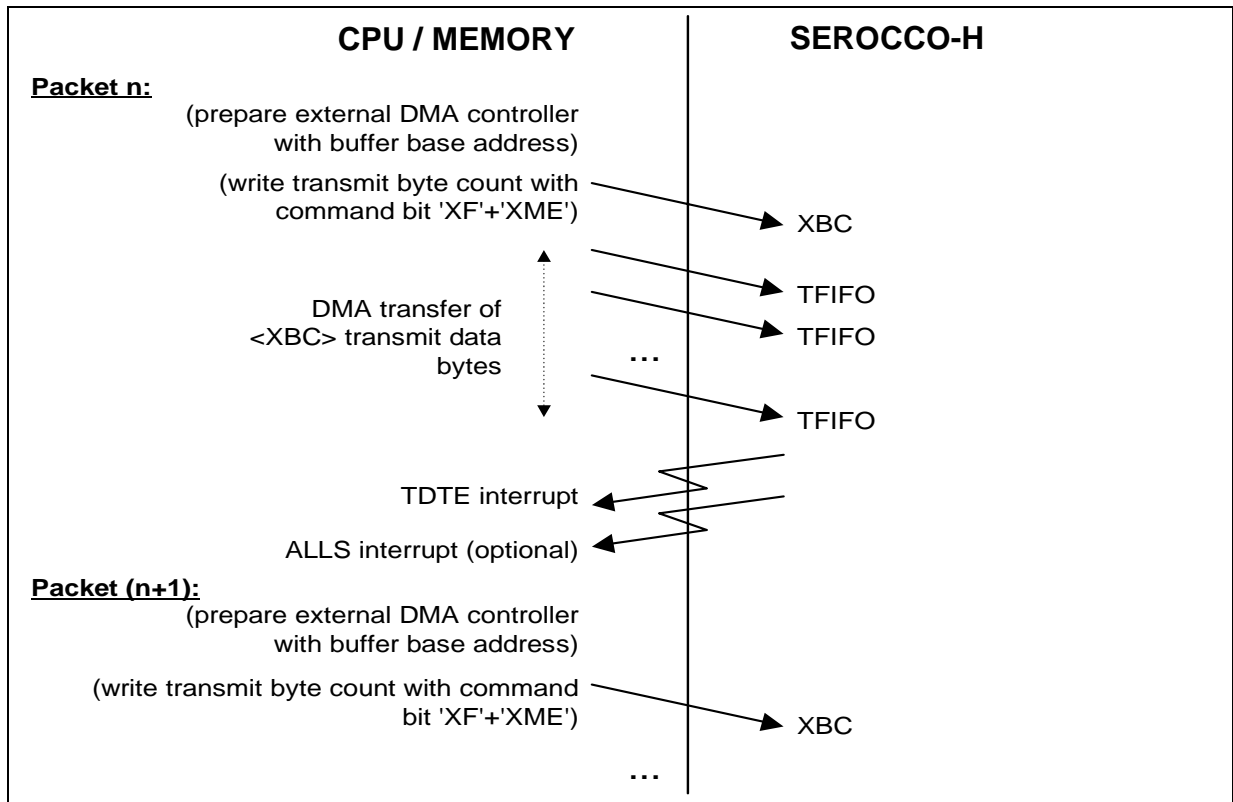

Figure 55 DMA Transmit (Single Buffer per Packet)
- If the prepared transmit buffer in memory contains a complete packet, the start command for DMA transmission is issued by setting bits 'XF' and 'XME' in register XBCH to '1'. The DMA support logic will request the external DMA controller to transfer data into the XFIFO . After the last byte has been transmitted, the protocol machine appends the trailer (e.g. CRC and Flag in HDLC), if applicable. The Transmit DMA Transfer End (TDTE) interrupt is generated (refer to Figure 55).